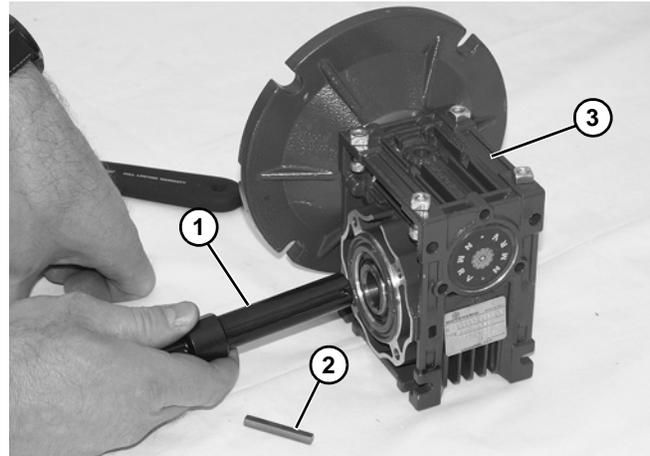

Figure 22
4. Remove driveshaft (**Figure 22, item 1**) and key (**Figure 22, item 2**).
5. Replace gear reducer (**Figure 22, item 3**).
7. Replace the original shaft components into new gear reducer (**Figure 22**).